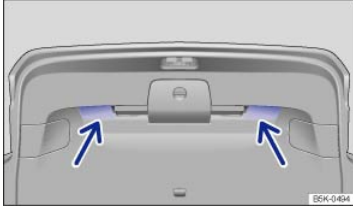

Fig. 63 Open trunk lid: Recessed grips for closing the trunk lid.
- Grasp one of the recessed grips in the trunk lid trim ⇒ Fig. 63 (arrows).